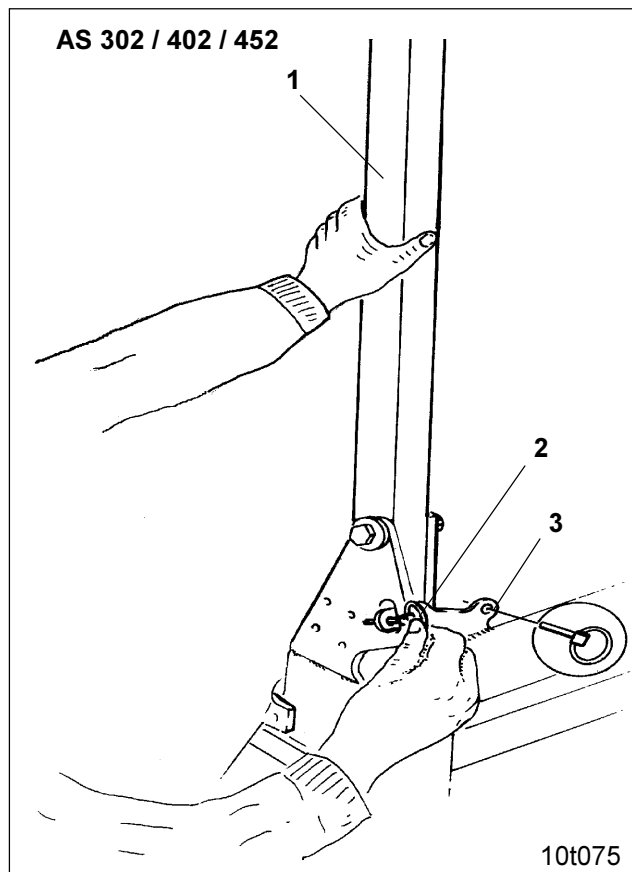
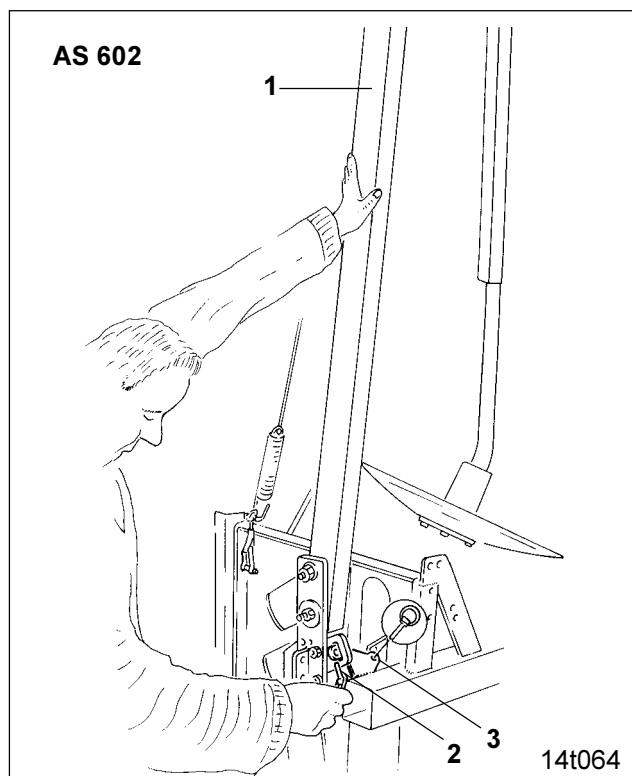

Fig. 24.10
Fig. 24.11
- hold track marker arm (Fig. 24.10/1) and remove the clip pin (Fig. 24.10/2) (necessary for transport)
- when not needed, insert the clip pin (Fig. 24.10/2) into one of the holes of the link (Fig. 24.10/3).
- hold track marker arm (Fig. 24.11/1) and remove clip pin (Fig. 24.11/2) (necessary for transport)
- when not needed insert the clip pin (Fig. 24.11/2) into one of the holes of the link (Fig. 24.11/3).
After removal of the clip pin (Fig. 24.10 or Fig. 24.11) the marker arm is tilting slightly to the side.
Before travelling on non public or public roads and ways secure both marker arms with clip pins (Fig. 24.10 or Fig. 24.11) against unintended lowering.